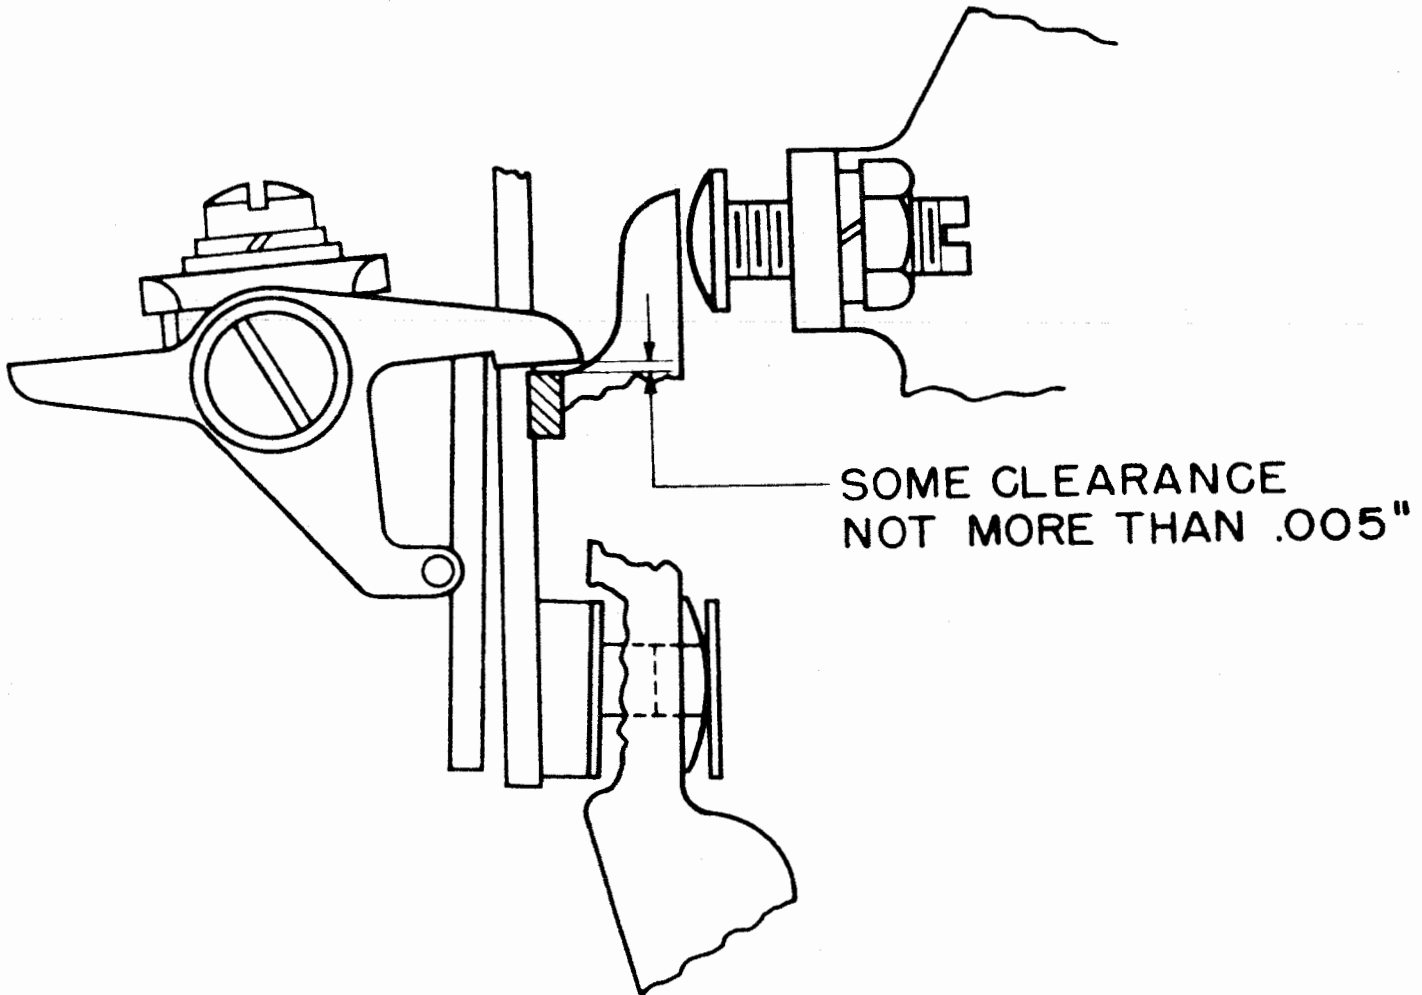

Figure 40
3.37 Latch and Latch Extension: There should be some clearance, not more than 0.005 inch, between the latch and the latch extension on the punch-contact operating lever with the magnet energized and the punch-operating contacts closed, and the punch-contact operating lever held so that the latch extension on the lever is in line with the low surface of the latching tip on the latch. See Figure 40.